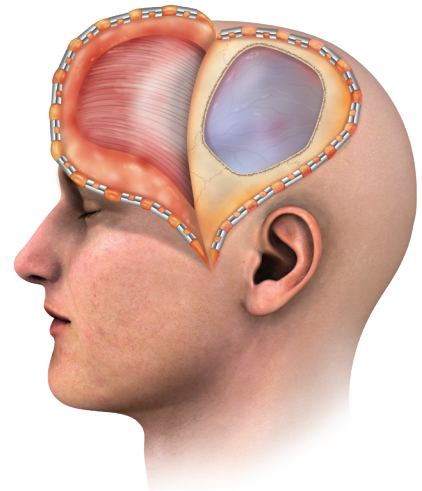

Figure 2: Surgical exposure
1. Obtain proper exposure of the surgical site by clearing excess soft tissue using a surgical blade and/or electrocautery (Figure 2).